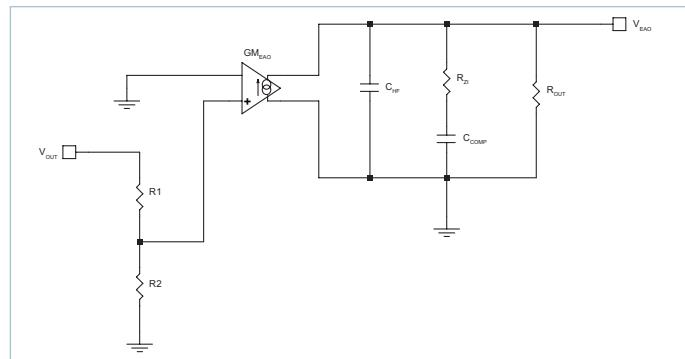
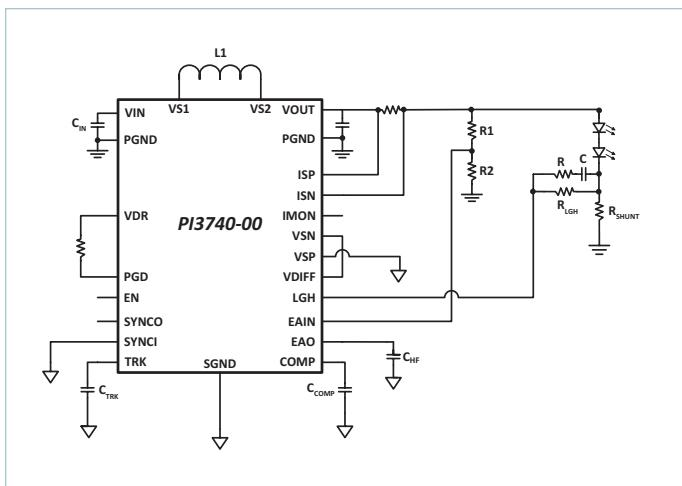

Figure 58 — PI3740-00 Error Amplifier Model
Figure 59 — Lighting Configuration Using CC Mode
When the amplifier is configured as shown in Figure 58, it forms a Type II amplifier configuration with poles and zeros determined by:
Figure 58 shows a small signal model of the modulator gain when using the application circuit shown in Figure 59 with two high current LED's in series. R_{LED} is the series combination of the AC resistance of each LED. R_{SHUNT} is used to sense the current through the LED string. Equation (16) defines the pole of transfer function.
When regulating in CC mode, it will be necessary to add a compensating zero to avoid loss of phase margin caused by the integrator stage of the LGH amplifier. A simple approach is to add a series R-C in parallel with R_{LGH} as shown in the lighting application diagram in Figure 59. The capacitor will be chosen to work with R_{LGH} to add a zero approximately 1.2kHz before the zero provided by the GM_{LGH} transfer function (the transconductance stage of the LGH amplifier). The external added resistor will form a high frequency pole to roll the gain off at higher frequency. Note that it is very important to understand the AC resistance of the LED's that are being used. Please consult the LED manufacturer for details. For a series string, you should add the individual LED resistances and combine them into one lumped value to simplify the analysis.